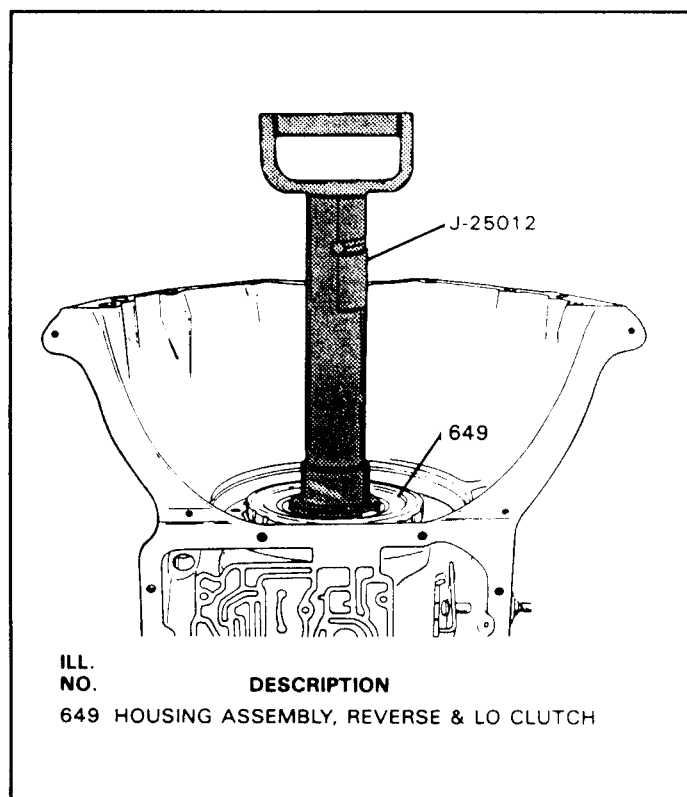

Figure 53
8. Remove the Lo/Reverse clutch housing, using the removal tool J-25012, as shown in Figure 53.